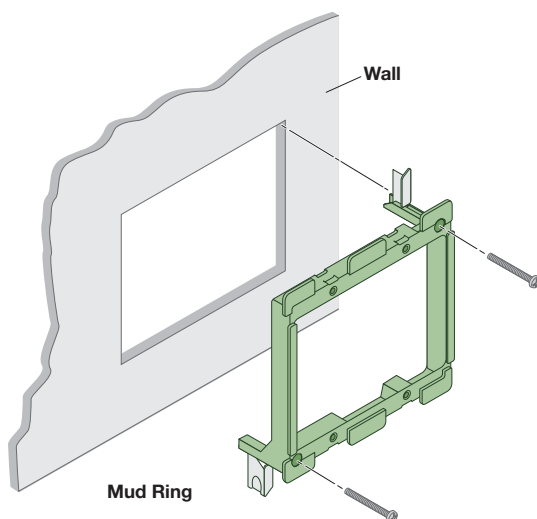

Figure 3. Installing the Mud Ring
2. Insert the mud ring into the opening, rotate and secure the locking arms with the supplied screws shown in figure 3.